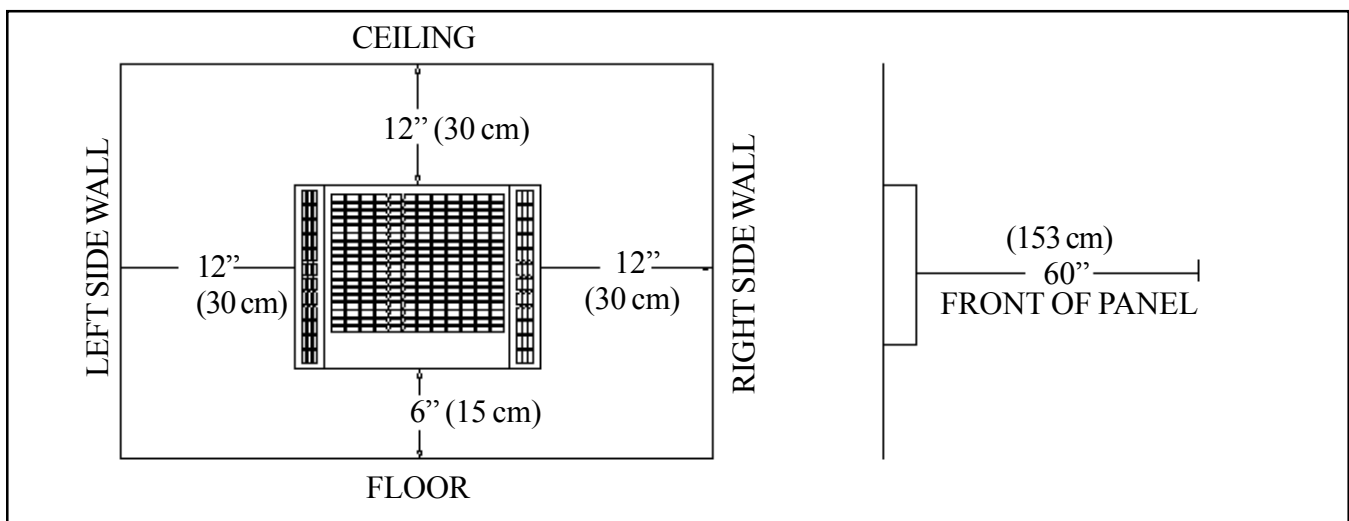

FIGURE 3
6. Check required clearances for front panel (See Figure 3).